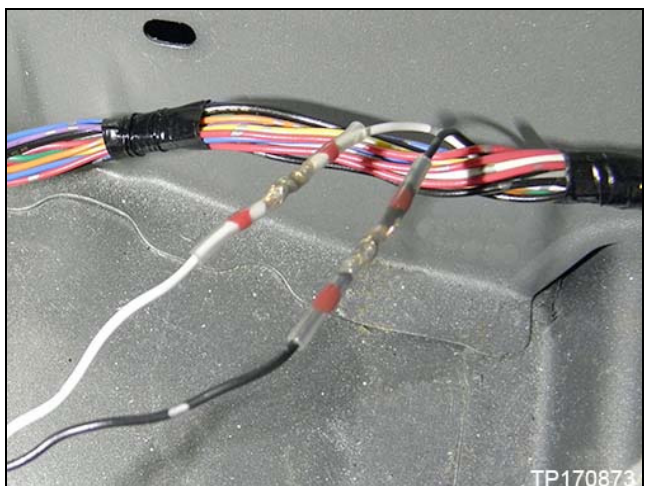

Figure 60
- Figure 60 shown with solder connections completed.